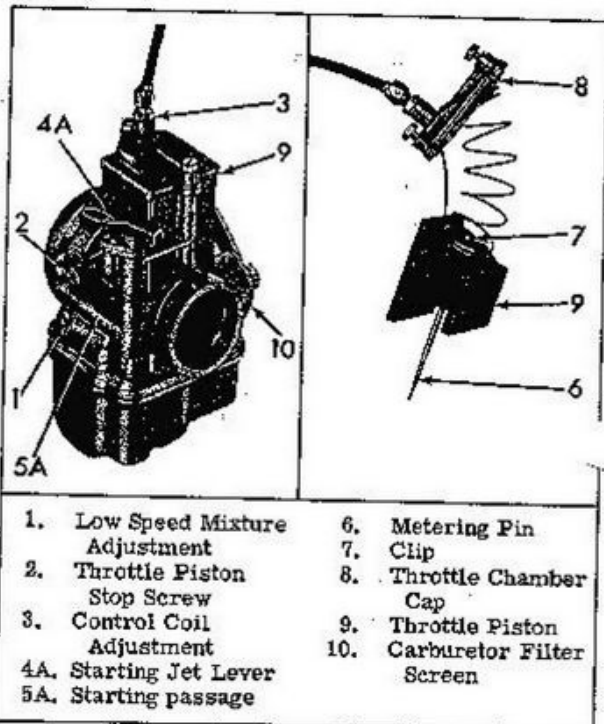

Figure 3F-29A. Carburetor Adjustment (1969 & Later)
**DISASSEMBLING CARBURETOR** (See Figure 3F-30 or Figure 3F-30A)